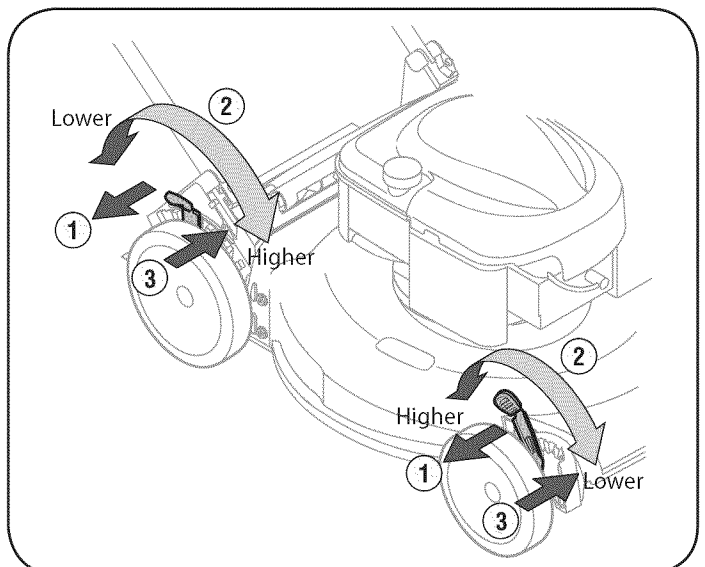

Figure 9
1. Pull the height adjustment lever outward towards wheel (unit will tend to fall when lever is moved outward). See Figure 9.
2. Move lever to desired position for a change in cutting height. See Figure 9.